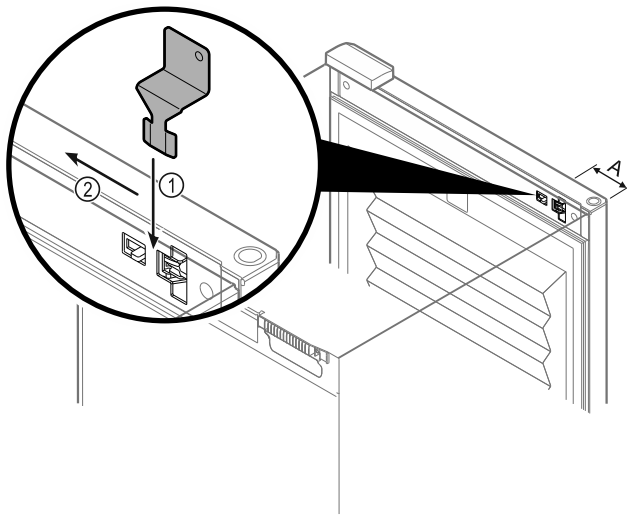

Fig. 164
- ▶ Position the emergency unlocking key in the location shown Fig. 164 (A) ~ 100mm.
- ▶ Insert the emergency unlocking key from above between the door and the appliance body as far as it will go Fig. 164 (1).
- ▶ Drag the emergency unlocking key towards the hinge side Fig. 164 (2).